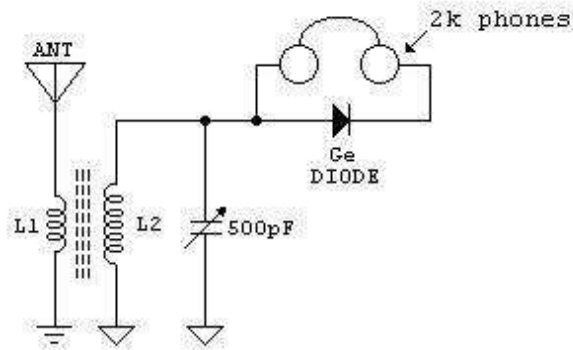

Fig.4 Floating-diode crystal receiver
Before going into the group of circuits featuring post-detection audio frequency (AF) amplification, let's take a look to the configuration shown in Fig.4. The germanium diode paralleling the 2000-ohms headphones appears to be floating above ground. Apparently